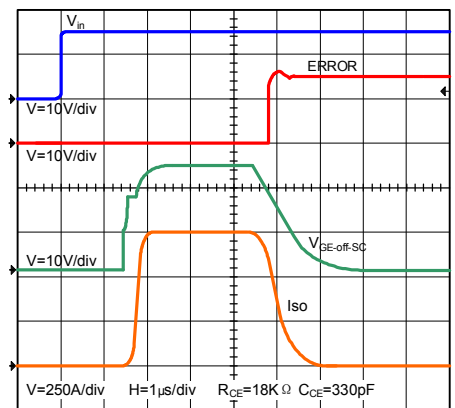

Fig.4 Soft turn-off waveform
■ In case of short-circuit, a further circuit (SOFT TURN-OFF) increases the resistance in series with R_{Goff} and turns-off the IGBT at a lower speed. This produces a smaller voltage spike (due to LSTRAY’ di/dt) above the DC link by reducing the di/dt value. Because in short-circuit conditions the Homogeneous IGBT’s peak current increases up to 6-8 times the nominal current, and some stray inductance is always present in power circuits, it must fall to zero in a longer time than at normal operation to avoid damage IGBT by high voltage spike. The default resistor used for soft turn-off is 22 Ω , this “soft turn-off time” can be reduced by connecting a parallel resistor $R_{Goff-SC}$ on J11, K11 & J18, K18 with those already on the printed circuit board(see Fig.4).
PSHI 2317 driver with $R_{CE} = 36k \Omega$, $C_{CE} = 470pF$ adjusted from factory. (see Fig.4 curve 2)